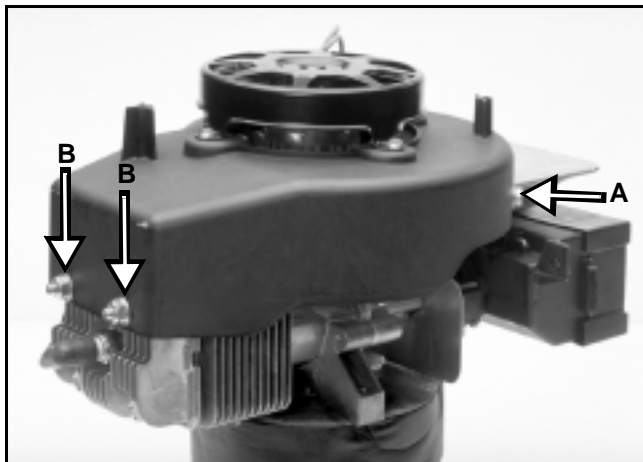

Figure 60
2. Remove the two hex head screws (A) that attach the shroud to the base. Also, there are 2 studs (B) on the cylinder head that are used to attach the shroud. Remove the nuts and washers from the studs. The shroud can then be rotated towards the cylinder head until there is enough clearance to slide the shroud off the studs. (See Figure 60.)